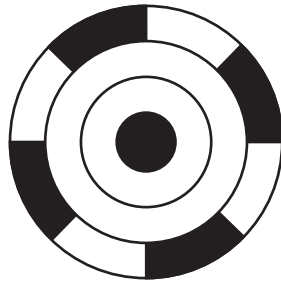

Figure Q5(a)
5. (a) Figure Q5(a) illustrates a partially completed coded disc for use in an optical rotary absolute encoder. On **Worksheet Q5**, identify the number of bits represented **and** complete the shading of the disc.